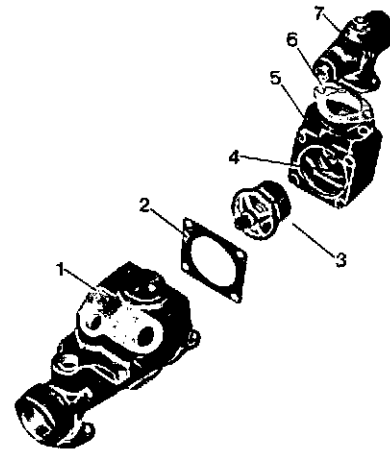

Fig. 8-55 (N10814). The Thermostat Housing And Seal.
1. Remove the connection for the water outlet (7, Fig. 8-55) and the gasket (6).
2. Remove the front water manifold (1) and gasket (2).
3. Remove the thermostat (3) and seal (4) from the housing (5).
1. Install the new seal (4, Fig. 8-55) into the thermostat housing (5). Use the Part No. ST-1225 Seal Mandrel to install the seal. Make sure the part number or metal side of the seal is against the mandrel when you install the seal.